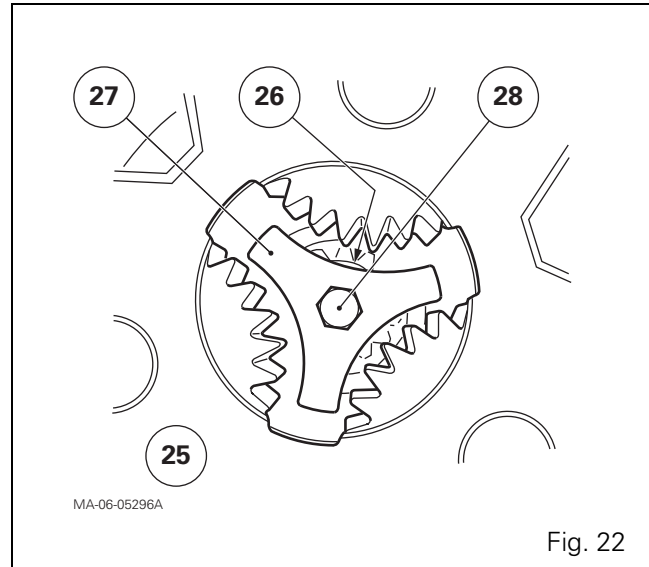
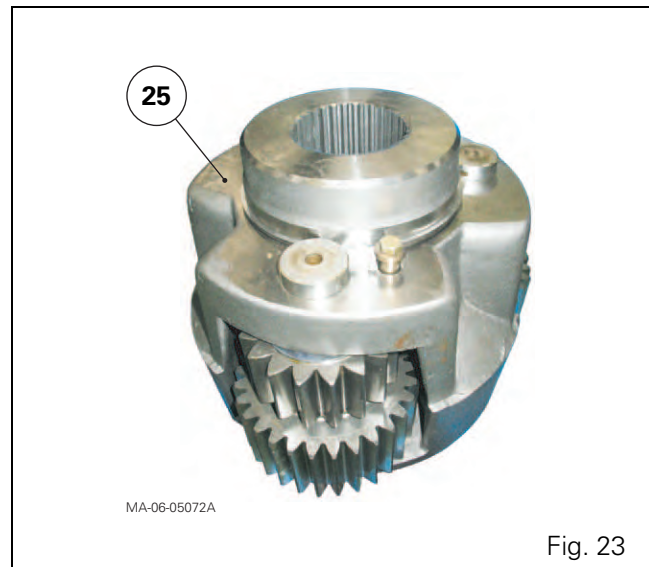

Fig. 22
Fig. 23
- the spacer (30) (see § D).
78. Immobilise the axle shaft (2) or the planet carrier (25).
79. Remove (Fig. 22):
- the M24 screw (28);
- the tripod washer (27);
- the shim(s) (26);
- the planet carrier (25) (Fig. 23) using a suitable sling;
- the ring gear (15) (see § D).